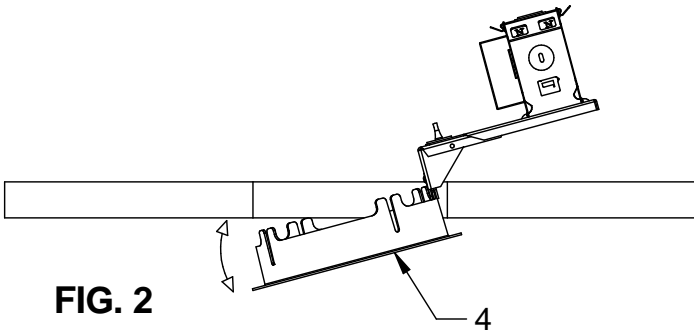

FIG. 2
- B. Push junction box assembly and flange ring (4) through hole in ceiling. (SEE FIG. 2) NOTE: For more complicated driver and/or controls options, it may be required to temporarily disassemble the driver and/or control assemblies to slip the junction box assembly through ceiling and then re-install the driver and/or control assemblies above ceiling as required.
- B. Pousser l'ensemble de boîte de jonction et d'anneau à rebord (4) à travers le trou du plafond. (VOIR FIG. 2)